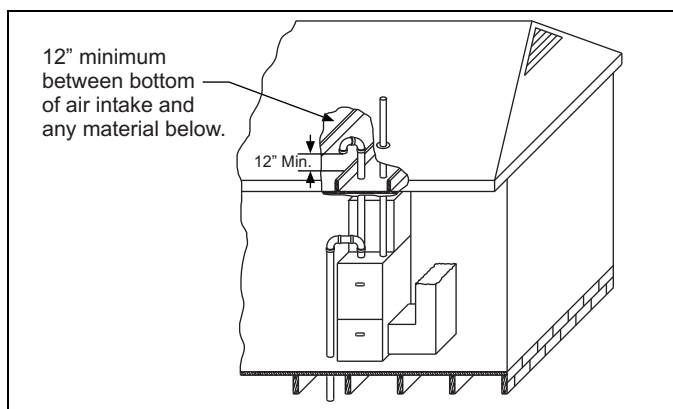

FIGURE 43: Attic and Crawl Space Combustion Air Termination
3. **VENTILATED COMBUSTION AIR:** Combustion air is supplied through a PVC or ABS pipe that is connected to the PVC coupling attached to the burner box and is terminated in a ventilated attic or crawl space. The combustion air and the vent pipes are not terminated in the same atmospheric zone. Refer to Figure 43 for attic and crawl space termination. Only the combustion air intake may terminate in the attic. The vent must terminate outside.
Refer to Figure 43 for required attic termination for the combustion air intake pipe. For attic termination, use two 90° elbows with the open end in a downward position. Be sure to maintain 12" (30.5 cm) clearance above any insulation, flooring or other material.